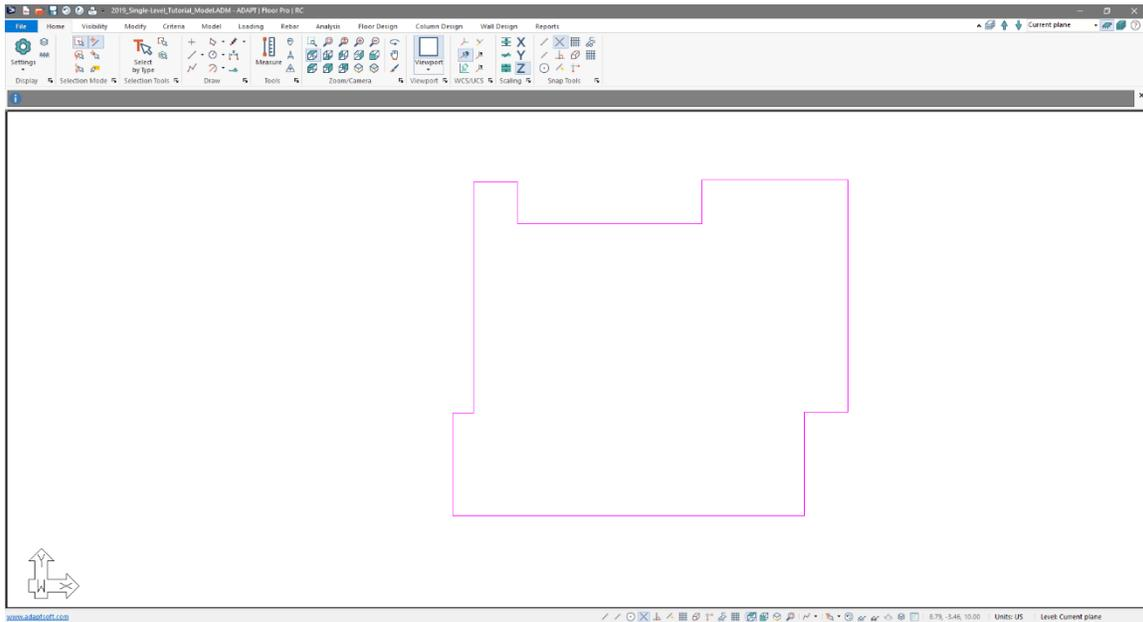

Figure 2-25
- Click on the *OK* button, the user should now see the slab region polyline from the imported DWG as shown in **FIGURE 2-25**.